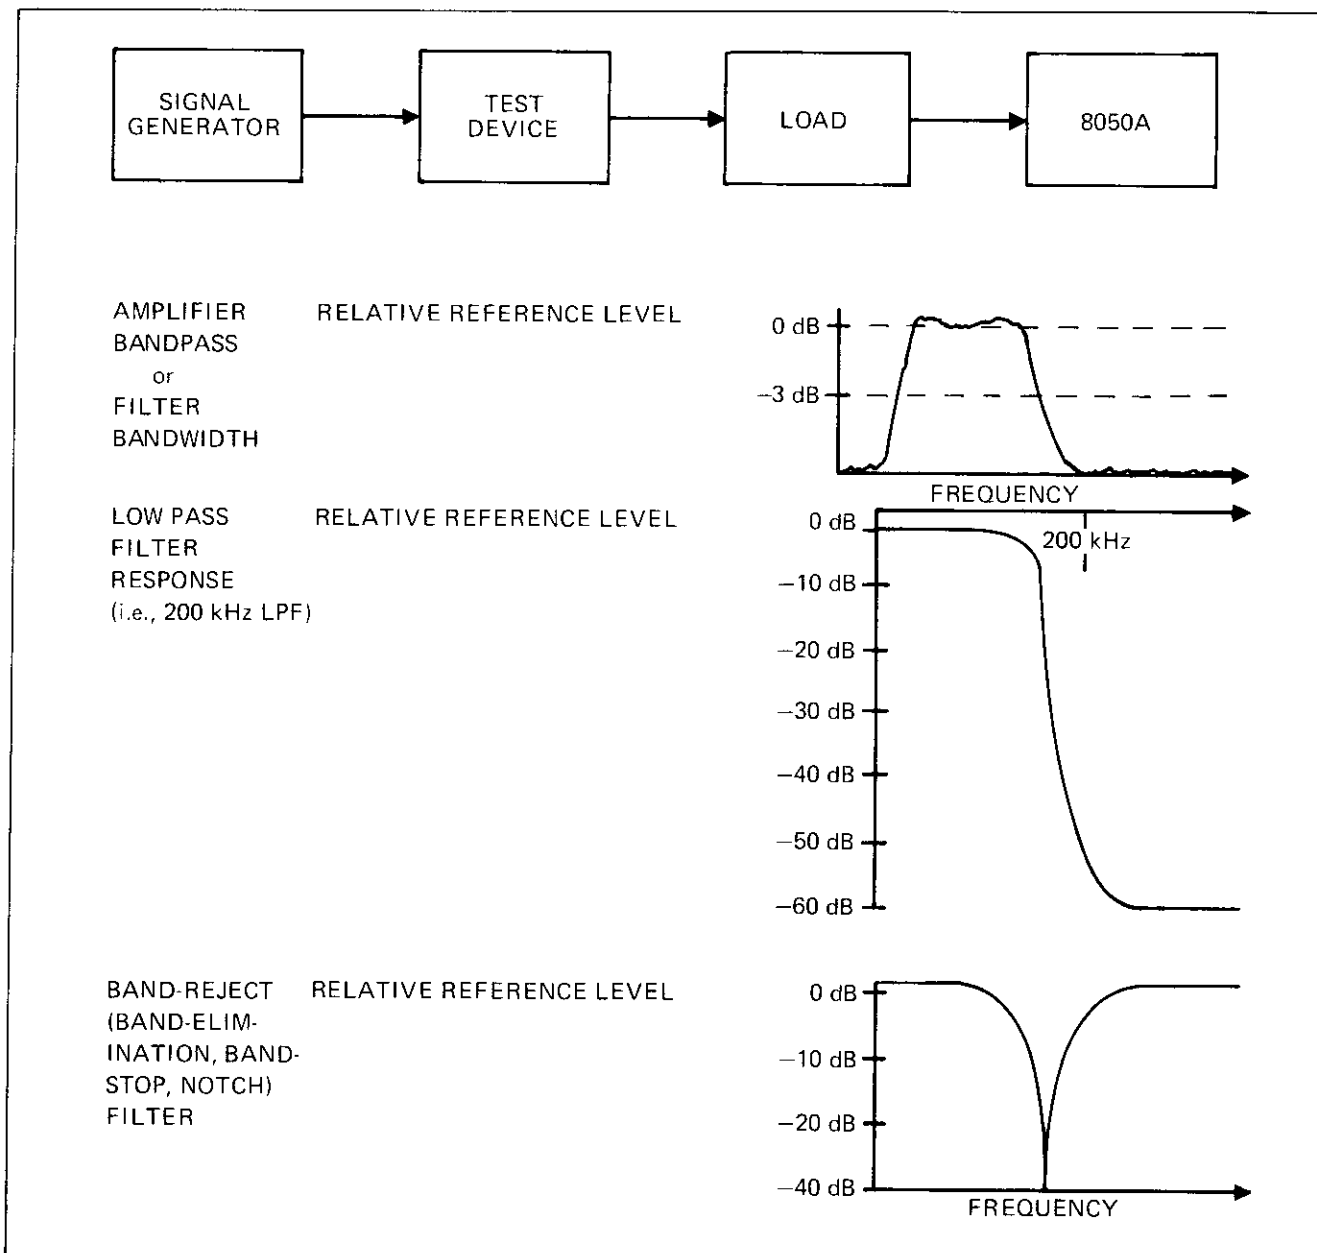

Figure 2-9. Frequency Sensitive Devices
1. Connect the amplifier (test device) as shown in Figure 2-9.
6. Set the RELATIVE switch to the ON position. You have now established the highest point in the bandpass as a 0 dB relative reference level. (See the top waveform in Figure 2-9.)
2-80. The response of other frequency sensitive devices can be found using similar techniques. Figure 2-9 has waveforms for some types of frequency sensitive devices.